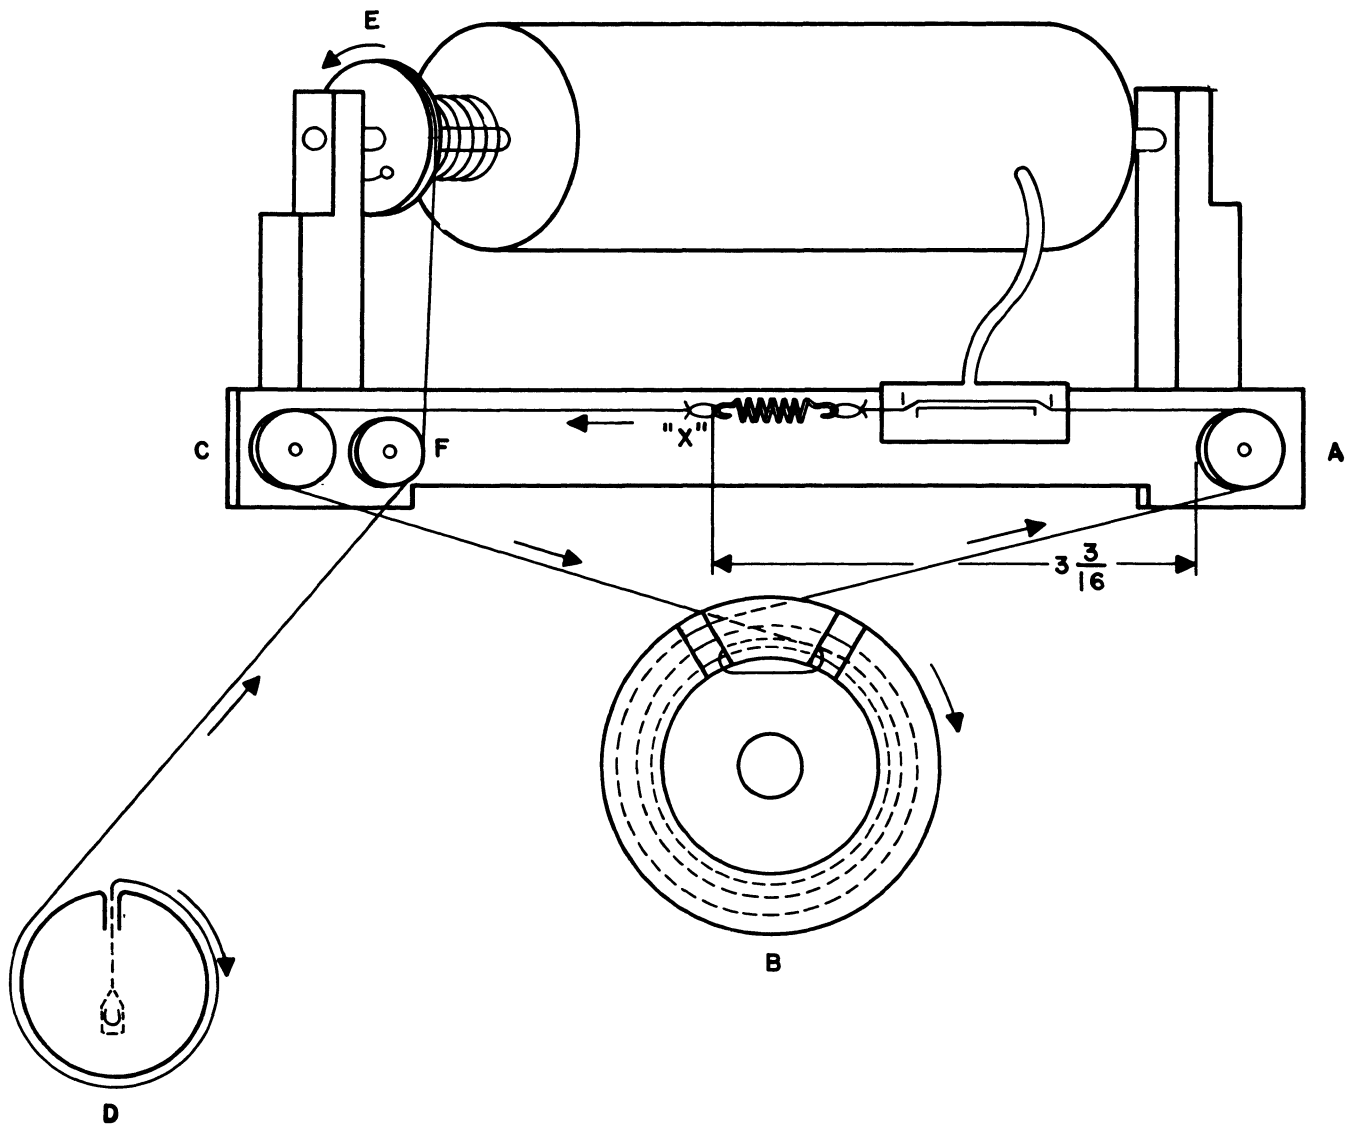

Figure 5-2. Dial Cord Replacement
a. GENERAL. Two dial cords are used in this equipment - one for the MEGACYCLES dial drum and one for the MEGACYCLES dial pointer. Refer to figure 5-2. In either case the front panel must be removed to gain access to the dial cords.
- (1) Remove the following knobs: BAND CHANGE, KILOCYCLES tuning, PA TUNING, PA LOADING and SIDEBAND SELECT.
- (2) Remove six panel screws (three on each side).
- (3) Pull the panel forward and off the extended control shafts. Allow it to tip forward - being careful to prevent breakage of connecting wires.
c. POINTER CORD. (See figures 5-2 and 6-3.)
- (1) Obtain a type 432 1018 00 Collins dial cord. This cord is cut to correct length and has securing loops already tied in the ends (as does the drum cord).
- (2) Scribe a mark on the KILOCYCLES tuning shaft and the dial hub to mark their relative positions and remove the KILOCYCLES dial.
(3) See figure 5-2. Turn the KILOCYCLES tuning shaft to the clockwise stop.
(4) Start at point X in the drawing with the cord hooked to one end of the spring (Collins Part Number of this spring is 503 1240 001).
(5) Bring cord around pulley C to pulley B.
(6) Wrap around pulley B clockwise, through the deep slot, around the tab, and back through the shallow slot. Wrap around pulley B two times clockwise.
(7) Wrap cord around pulley A and loop the end on the free end of the spring.
(8) Fasten the pointer to the cord.
(9) Replace the KILOCYCLES dial and match the scribe marks (added in step (2)) and tighten the setscrews.
(10) Back the KILOCYCLES dial to where O is straight up.
(11) Slide the pointer to the first major mark at the right-hand edge of the drum.
(12) Check by turning the KILOCYCLES dial shaft through its entire range.
(13) Replace panel - be sure KILOCYCLES dial plate is in the correct position on its shaft so that there is no binding and so that the DIAL DRAG works correctly.
(14) Replace the knobs.
d. DRUM CORD. (See figures 5-2 and 6-3).
(1) Obtain a Collins Type 532 1020 00 dial cord.
(2) Turn the BAND CHANGE to the 3-4 mc band (80 meter).
(3) Turn pulley E approximately one turn and hold tension spring taut. (The front panel must have been removed as in paragraph b. above).
(4) Make approximately 3/4 turn around pulley D and hook cord to tab.
(5) Extend the cord around the inside of the idler pulley F and go around pulley E to the tab and hook the cord to it. Release the tension spring.
(6) Replace the panel and knobs.
(7) Loosen the setscrew in the drum hub opposite the coil tension spring and align the drum calibration to the 80-meter band then tighten the setscrew.